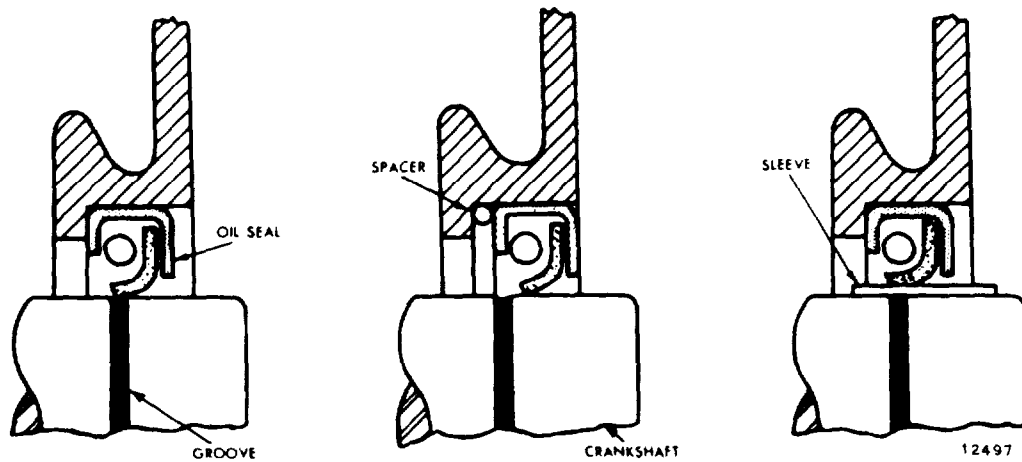

Figure 11B-83. Use of Rear Oil Seal Spacer or Sleeve on Grooved Crankshaft
5. Drive the seal into the housing with installer J 9727 and handle J 3154-1 (see Figure 11B-84) until it is seated against the seal spacer (if used) or on the shoulder in the housing bore. The installer prevents damage to the seal by exerting force only on the outer edge of the seal casing.